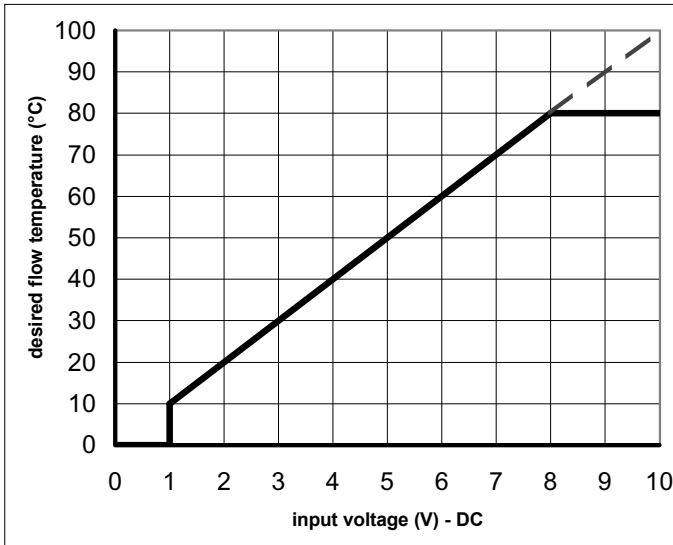

Fig. 17 Temperature control via analog (0-10 Volt) signal
- Temperature based (20 to 90 °C) set the \boxed{X} value of the boiler control operation parameter $\boxed{R_1}$ to $\boxed{4}$. To set the ratio between voltage and the desired flow temperature, see par. 6.6.6 and Fig. 17.